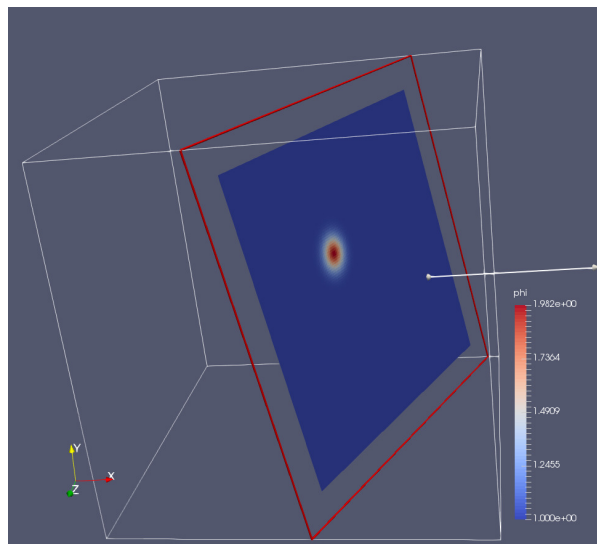

Figure 11.3: Plotfile image generated with ParaView
7. You can play with the Plane Parameters to define a plane of data to view, as shown in Figure 11.3.